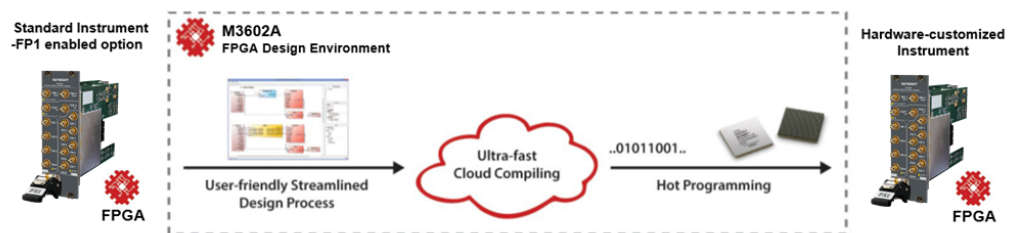

Figure 15: Keysight M3602A: a platform that provides the complete flow from design to FPGA programming
Keysight M3602A is a complete FPGA design environment that allows the user to customize M3XXXA PXIe hardware products. M3602A provides the necessary tools to design, compile and program the FPGA of the module (Figure 15).
- Complete platform, from design to FPGA programming: Keysight M3602A provides the necessary tools to design, compile and program the FPGA of the module (Figure 15)